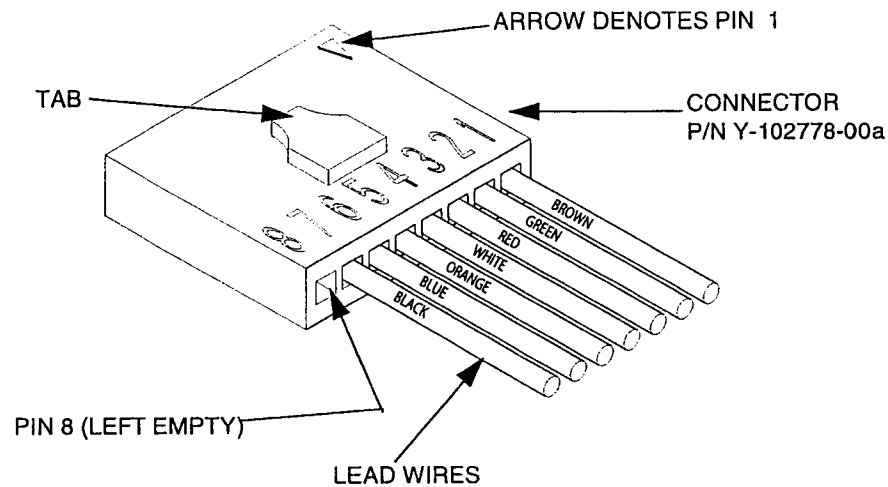

FIGURE 4-37.
11. Insert the pins into the remote alarm connector, until they lock into place. For proper pin location, see Figure 4-37. The arrow on the connector denotes pin 1.